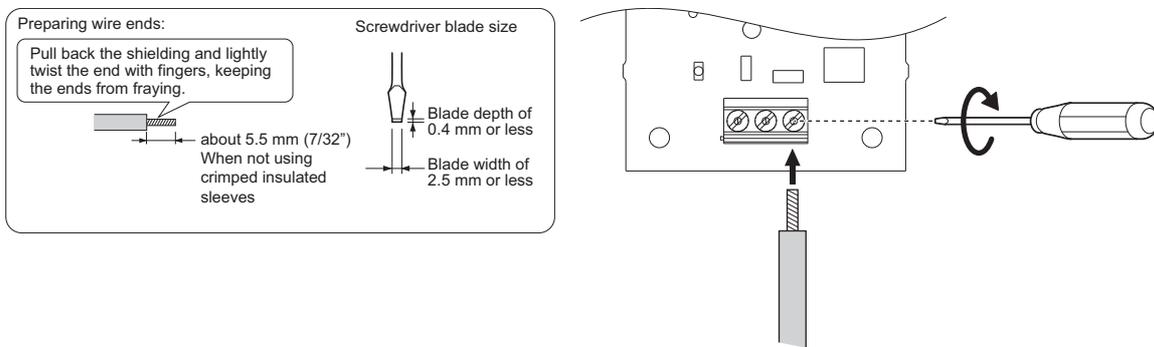

Figure 44 Wire the Option Plug
2. Use a flat-blade screwdriver to loosen the screws on the terminal block TB1, connect wiring to the 24, 0, and FE terminals as shown in **Figure 44**, then tighten the terminal screws to hold wiring in place.